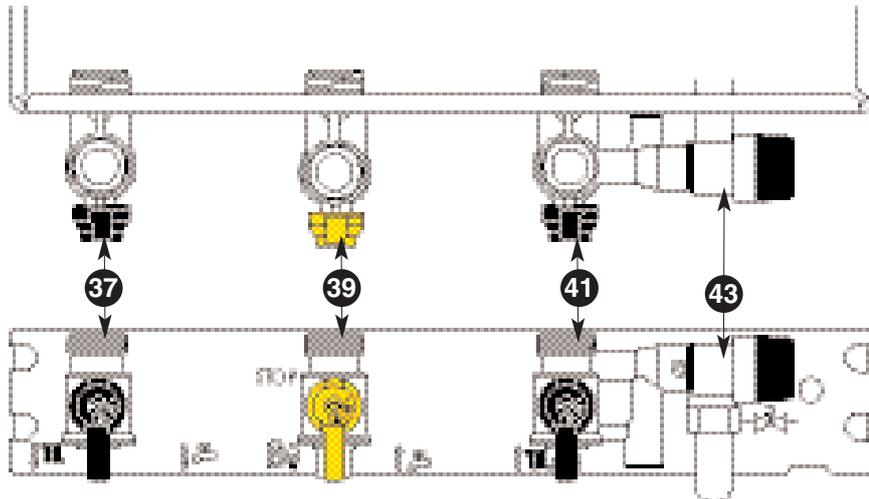

Fig. 20
3. Open the gas tap 39 (Fig. 20).